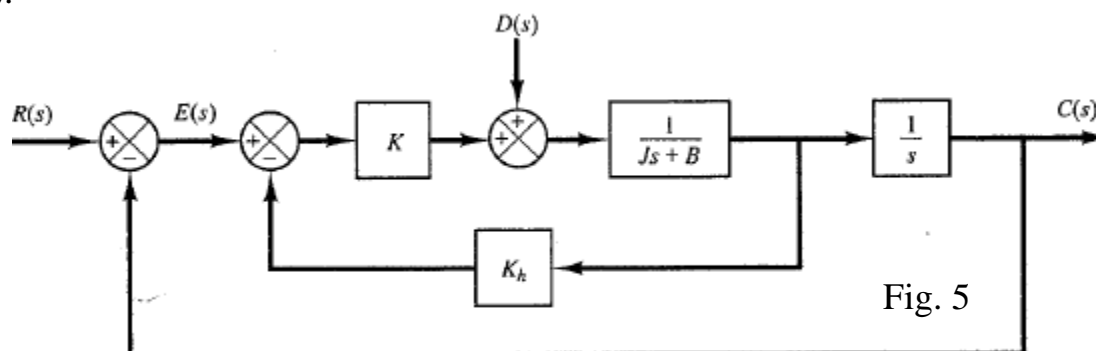

Fig. 5
- 6) Consider servo system with tachometer feedback shown in Fig. 5. Obtain the error signal  $E(s)$  when both the reference input  $R(s)$  and disturbance input  $D(s)$  are present. Obtain also the steady-state error when the system is subjected to a reference input (unit-ramp input) and disturbance input (step input of magnitude  $d$ ).